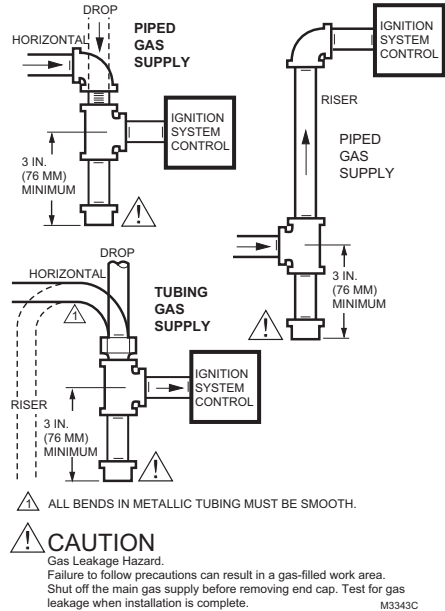

Fig. 3. Sediment trap installation.
6. Install a sediment trap in the supply line to the ignition system control as shown in Fig. 3.